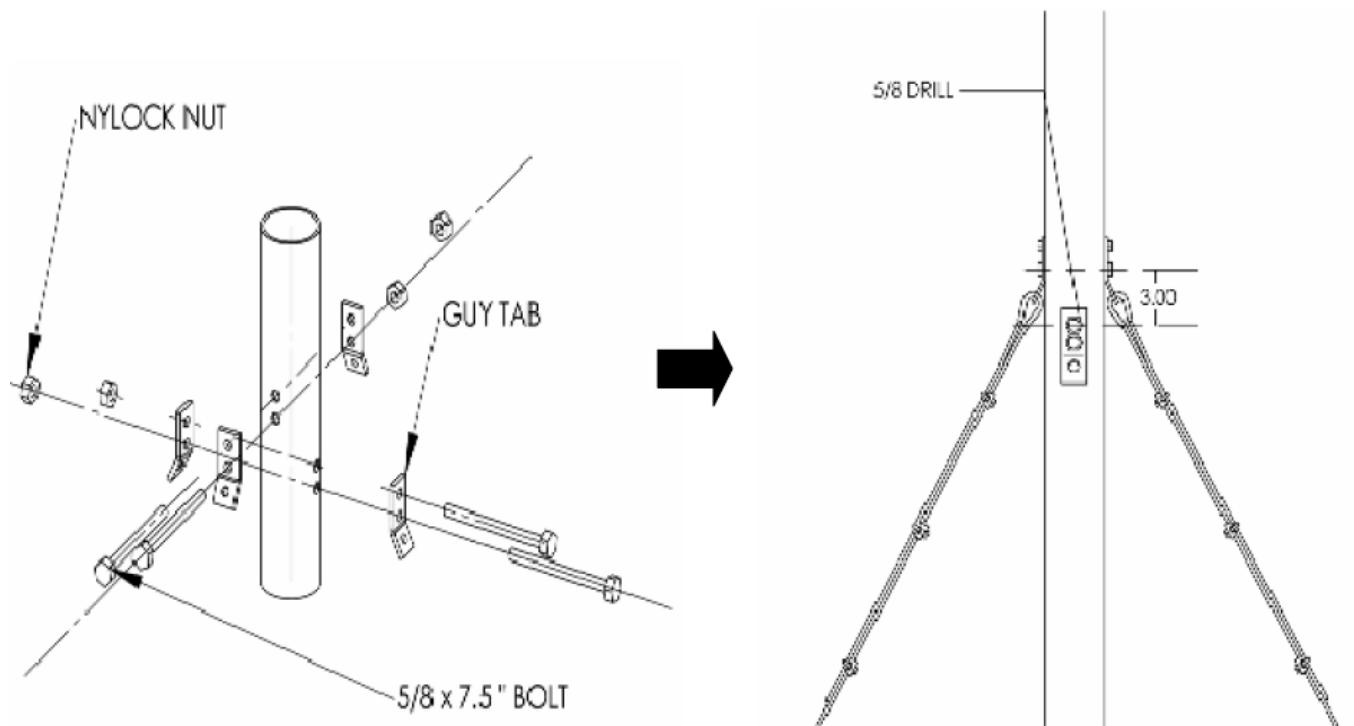

Figure 1.2
2. The Guy tab holes have been drilled according to Figure 1.2.